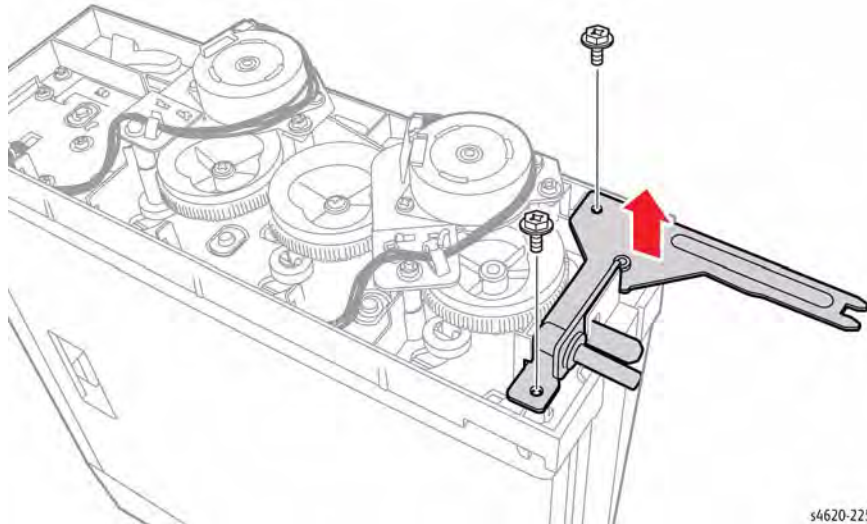

Figure 1 Remove the exit gate bracket
4. Remove 2 (plastic) screws that secure the mounting bracket, Figure 1.